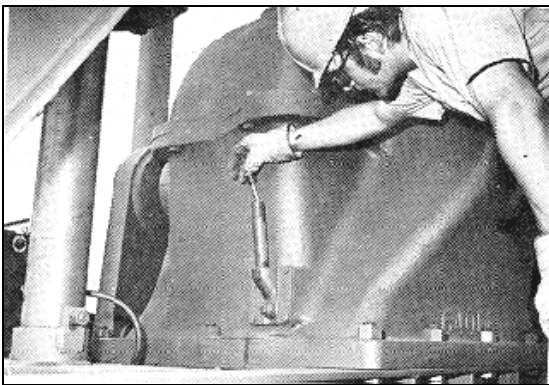

Figure 2. Checking the oil level and condition in the gearbox.
2. Check the fluid level in the gearbox if there is evidence of a leak (Figure 2).